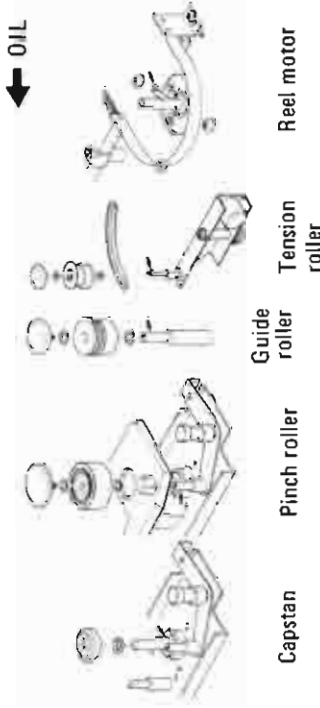

Fig. 5-16
2. Apply a few drops of oil to the spindles indicated in Fig. 5-16, except the capstan and the reel motors. Spread the oil evenly on the spindle surfaces using a cotton cloth or similar applicator.